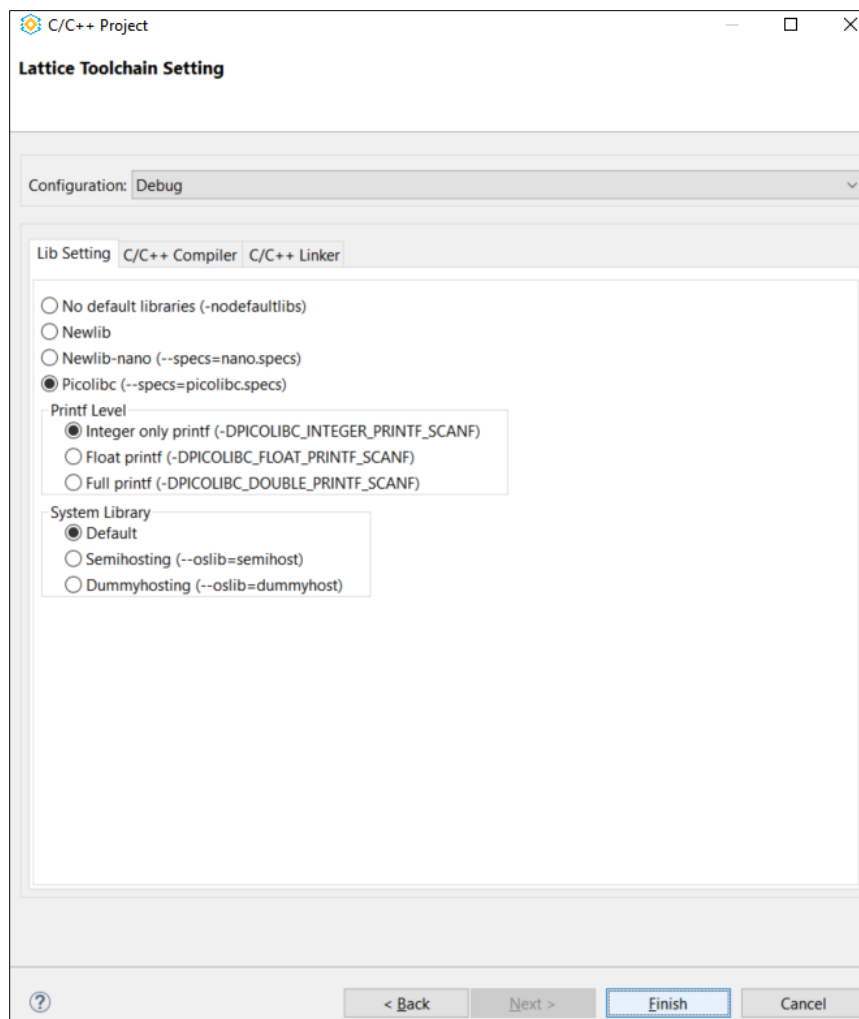

Figure 7.26. C/C++ Lattice Toolchain Setting
- Click **Next**. The Lattice Toolchain is shown in Figure 7.26. Click **Finish**.